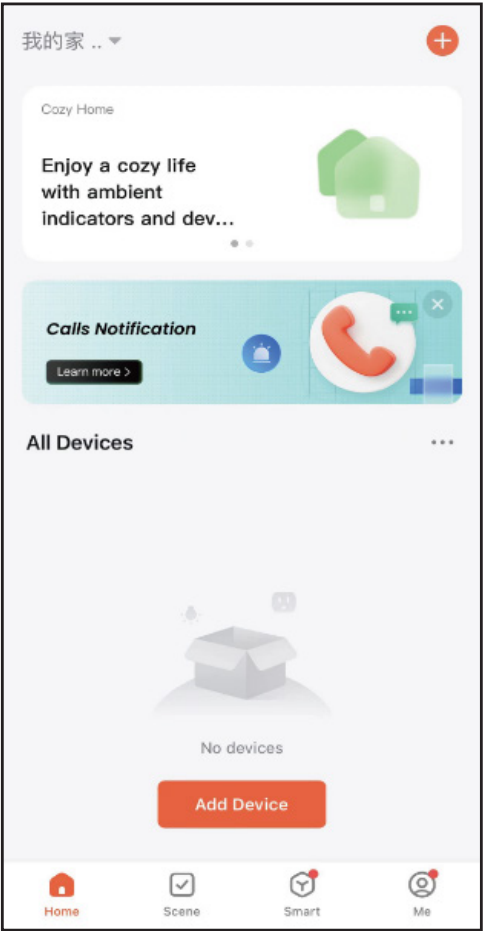
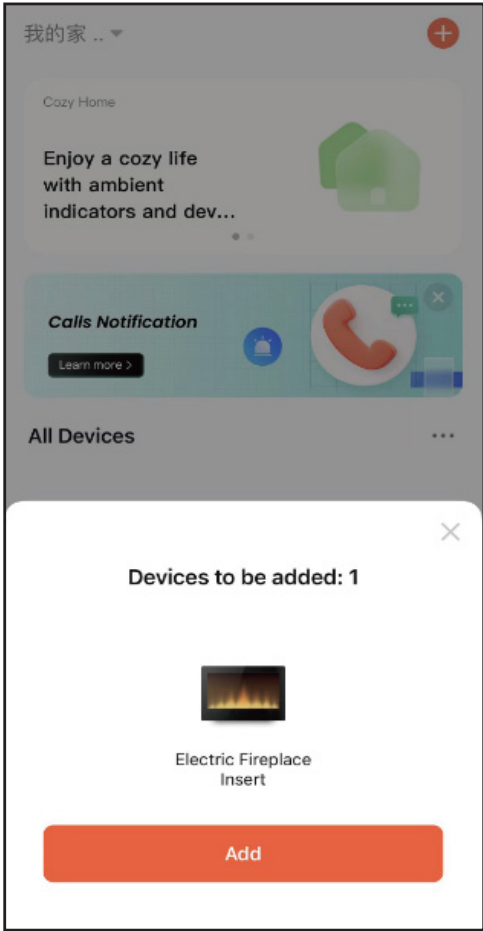
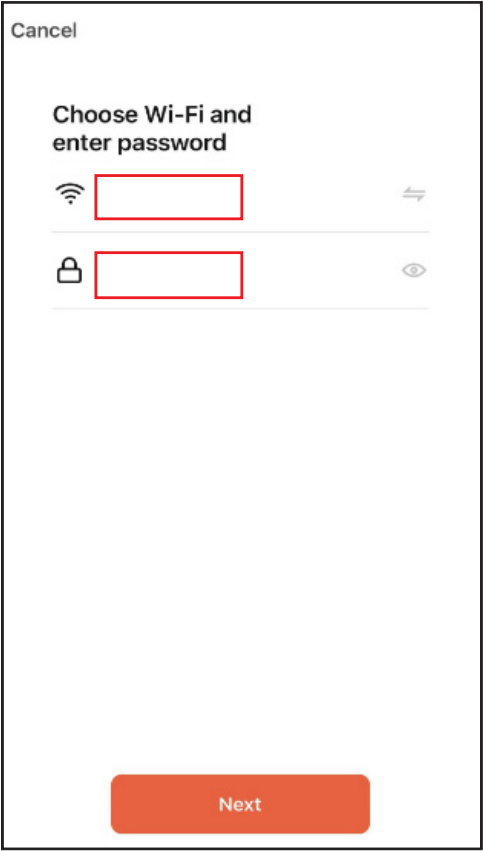
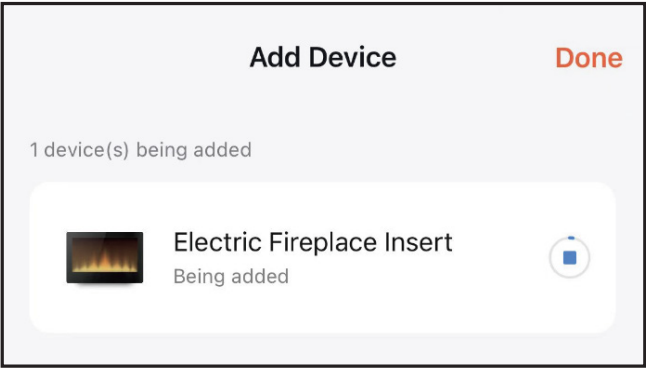

Figure 1
Figure 2
Figure 3
Figure 4
2. When you log in, click "Add Device" (Figure 1) to go to the next step. The APP will scan and add the fireplace to the APP automatically (Figure 2). Click Add. Enter your WiFi account name and password (Figure 3) and click Next. The APP will add the electric fireplace (Figures 4 and 5). Click Done to finish the WiFi setup.